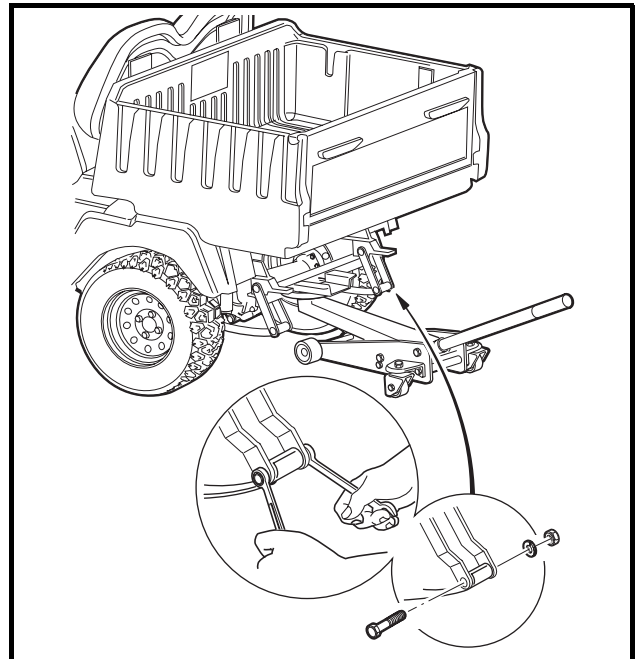

Figure 18-41 Leaf Springs and Shackles
15. Adjust the vehicle height with the floor jack to position the leaf springs for mounting in the shackles. Install the mounting bolts, and lock nuts (Figure 18-41, Page 18-15).